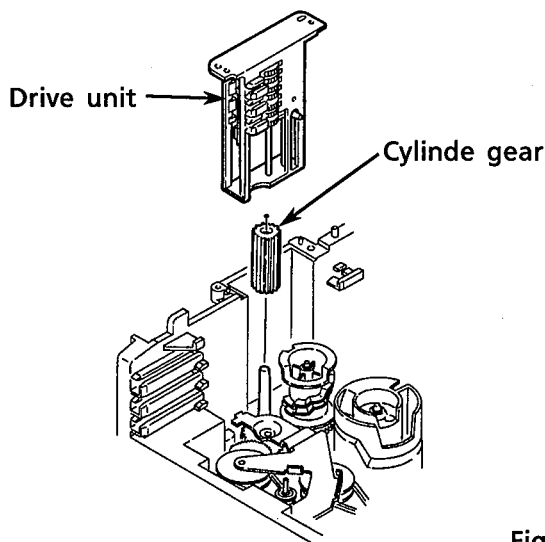

Fig. 21
3. Remove the drive unit and cylinder gear. (See Fig. 21.)